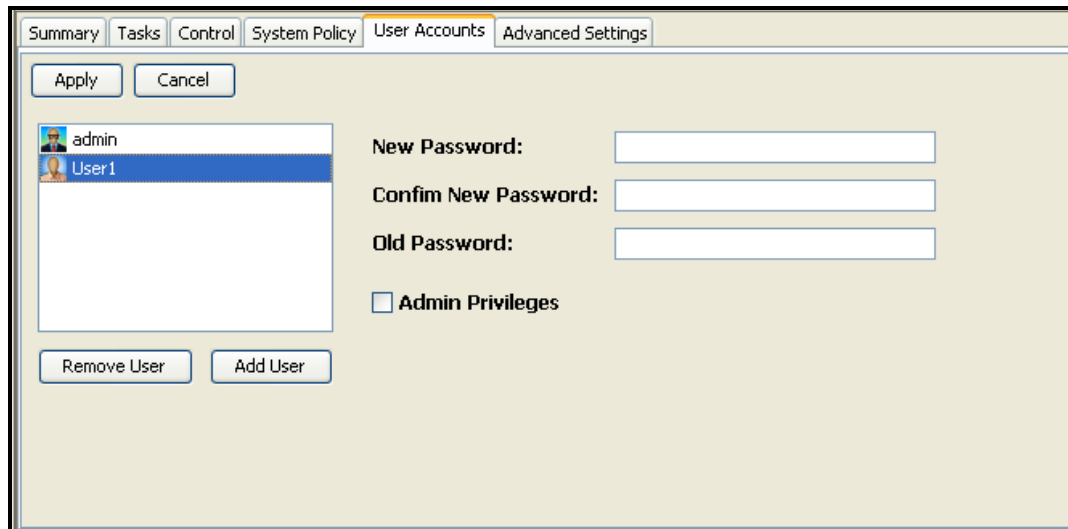

Figure 3-15. Modifying a User Account Named User1
*The **User Accounts** tab appears in the **Detail Tabs** area (see Figure 3-15).*
*The **User Accounts** tab displays your user account settings (an example is shown in Figure 3-15).*